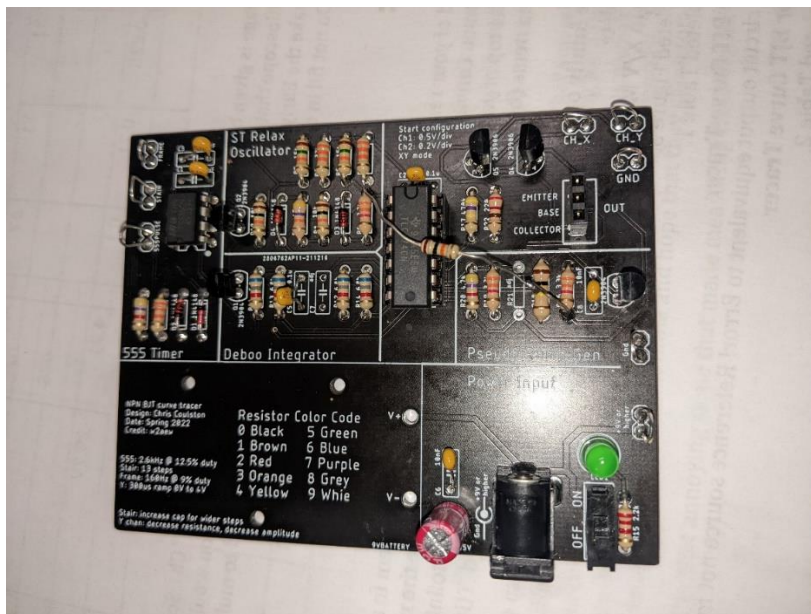

Figure 7: The completed BJT Curve Tracer board. Do not add the free floating 10K resistor.
This week, you will be soldering in the components in the upper right corner of the BJT Curve Tracer PCB, completing the assembly as shown in Figure 7.
- Do not install the 10K resistor hanging over the TLC274 shown in Figure 7. I added this resistor to remove an annoying glitch on an earlier revision of the BJT Curve Tracer that will not occur on your board